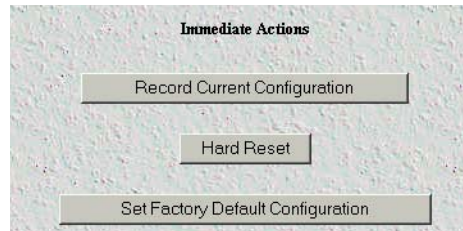

Figure 18. Immediate Actions buttons
- **Record Current Configuration**—clicking on this button (see figure 18) saves the current configuration in volatile DRAM memory to FLASH memory. Once the configuration is saved into FLASH memory, the configuration will not be lost even if the power is cycled on the 3224. changes made to the 3224 configuration are stored in volatile DRAM, enabling the user to set the box up with a working configuration before committing it to storage in FLASH. When you select **Record Current Configuration**, the 3224 stores your changes to FLASH memory.
- **Hard Reset**—this button (see figure 18) causes the Model 3224 to perform a cold restart. When you select **Hard Reset**, the DACS confirms that you want to execute this command. Then, the DACS will disconnect all current sessions, re-initialize the interfaces, and re-load configuration parameters from FLASH.
- **Set Factory Default Configuration**—this button (see figure 18) clears out the configuration in FLASH and loads the factory default parameters into FLASH memory. The factory default settings will not execute on the Model 3224 until it is re-booted by doing a Hard Reset.